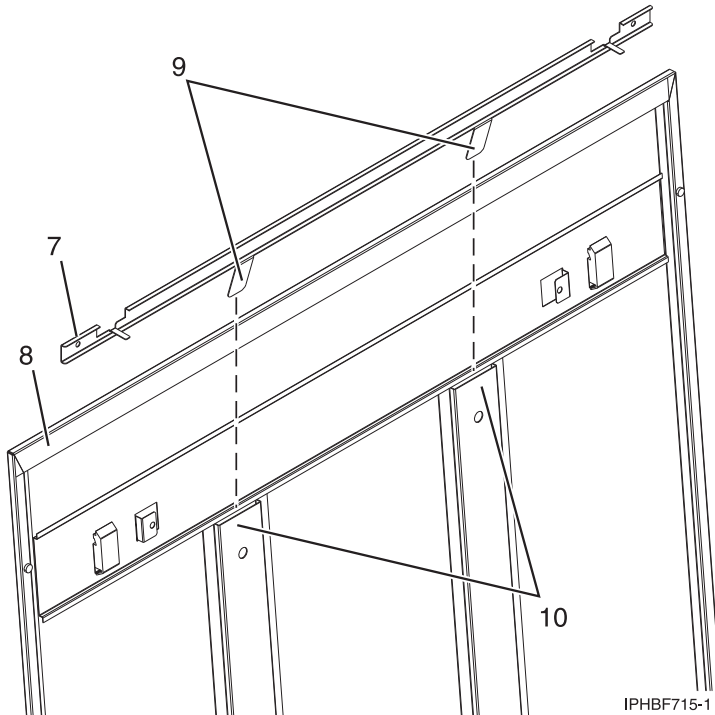

Figure 112. Installing a security slide bar
- b. With the flat side of the slide bar rail (7) in Figure 112, facing the inside of the cover panel (8), insert the two tabs (9), on the slide bar rail into the two vertical support channels (10) on the side cover panel.